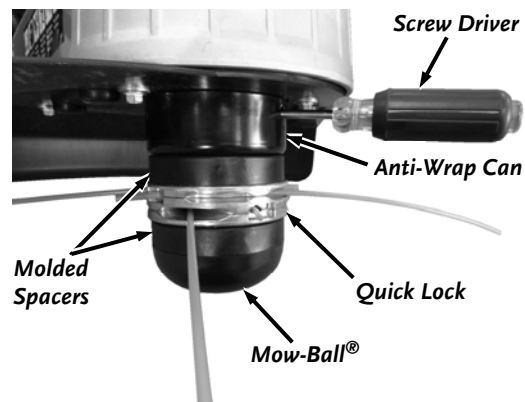

Figure 8
2. Slide the Quick Lock, Adapter and Molded Spacers off the Shaft (**Figure 8**).